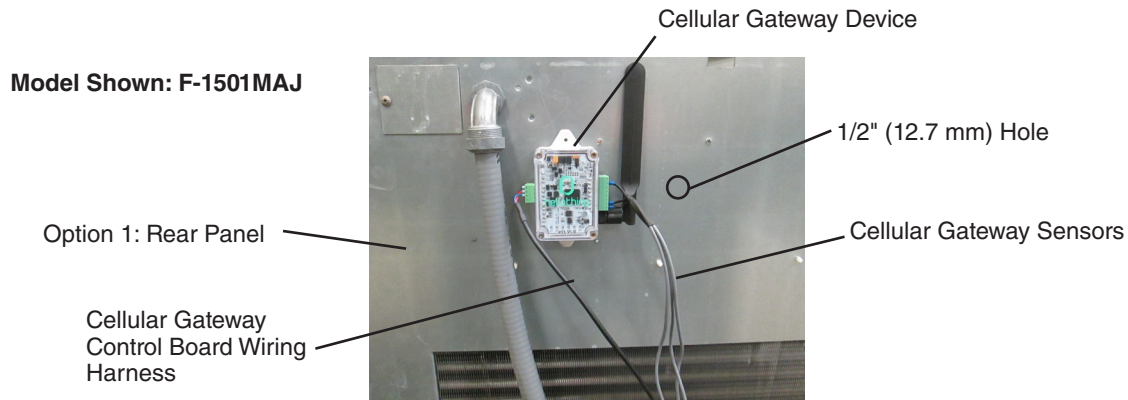

Fig. 2
Option 1: Rear Panel. See Fig. 2.
- 5) Drill a 1/2" (12.7 mm) hole through the panel. Place a 1/2" romex connector (not provided in this kit) into the hole. See Fig. 2.